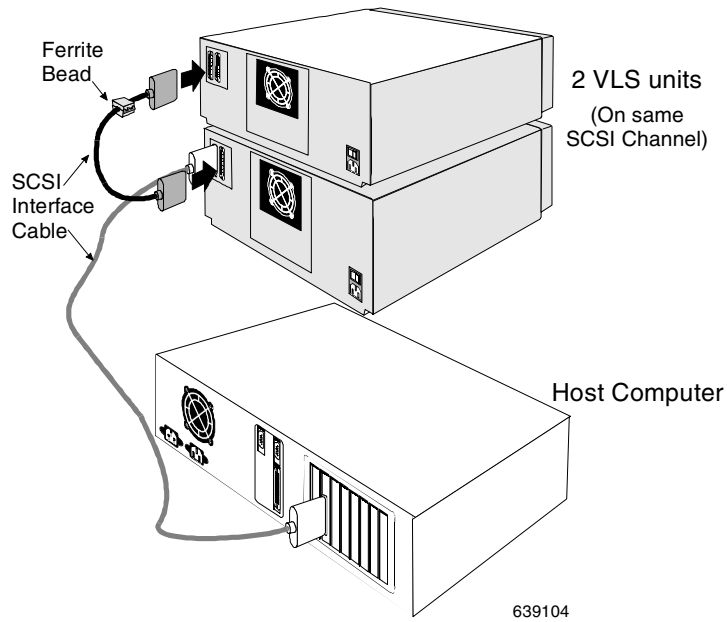

Figure 17. Installing the Ferrite Bead
- Clip the clamp-on bead on the cable at any point between the two units. Refer to Figure 17.